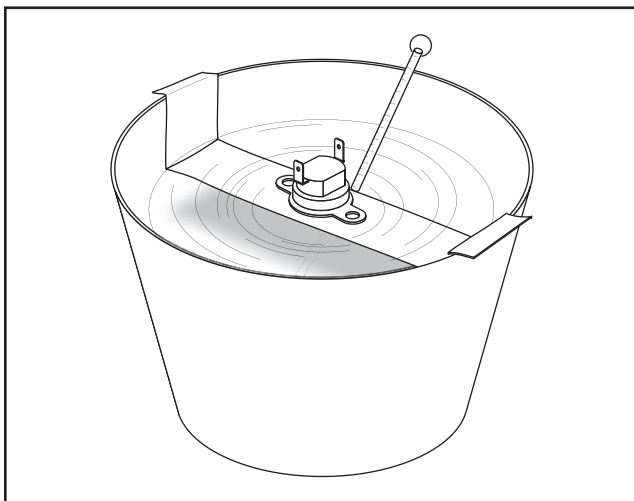

Figure 39. Testing the Oil Temperature Switch
7. Immerse the sensing tip of the switch in oil as shown in Figure 39, along with a suitable thermometer.